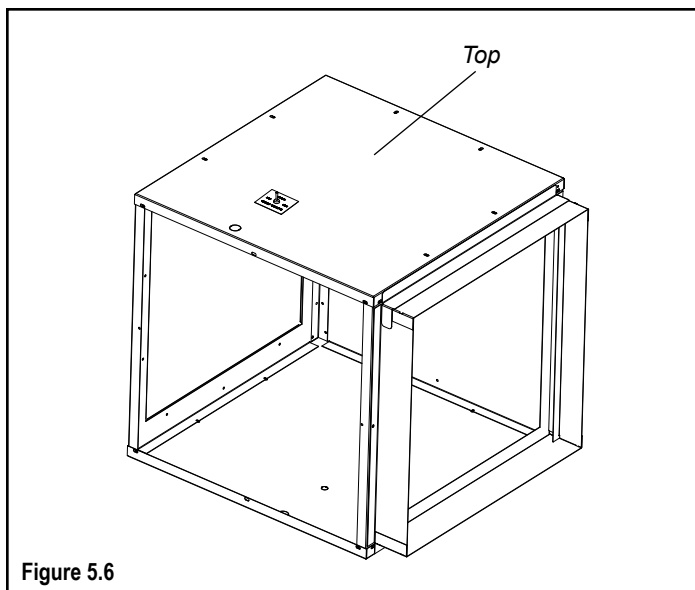

Figure 5.6
5. Place the top on the filter box as shown in Figure 5.6. At this time all Tek screws can be inserted around the filter box.